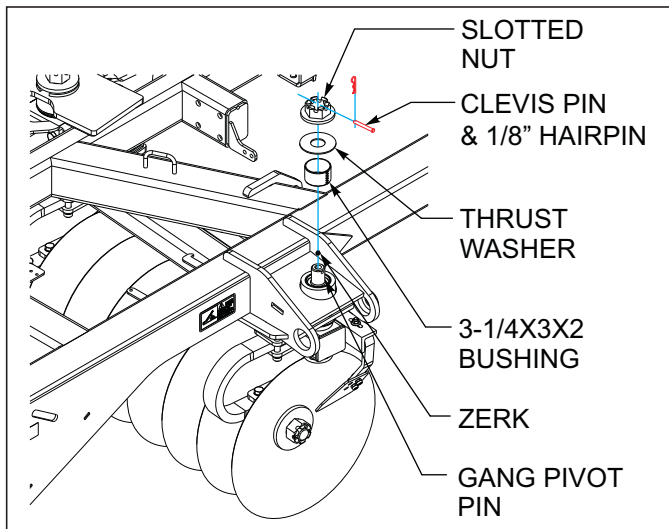

Figure 4-21: Gang Pivot Pin
6. The gang pivot pin will need greased annually (See Figure 4-21.). Remove the clevis pin and 1/8" cotter pin. Check to see if gang pivot castle nut is still tight, if it is real loose remove pin and check for wear on pin or spring bushings. Replace pin or bushings if needed. If nut is still tight grease the zerk in top of pin and re-install the clevis pin and 1/8" cotter pin (See Figure 4-21.)